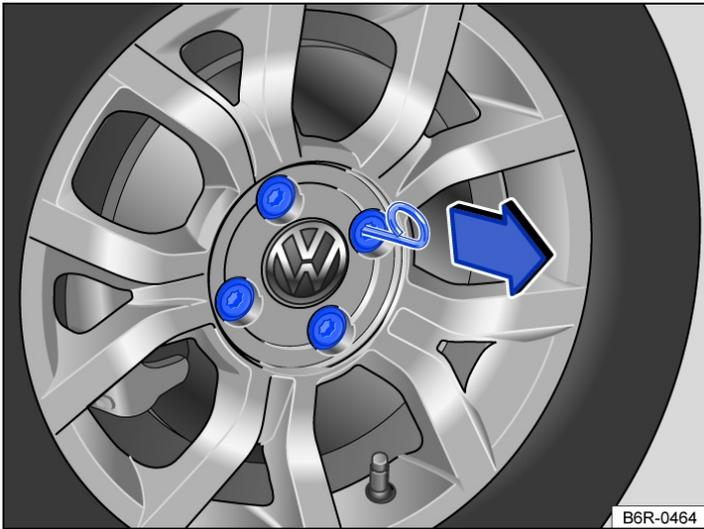

Fig. 1 Removing the wheel bolt caps.
- Insert the wire hook through the opening in the cap → Fig. 1 and pull off in the direction of the arrow.